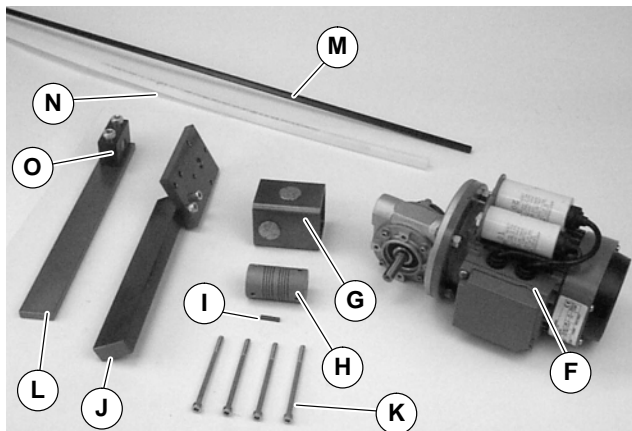
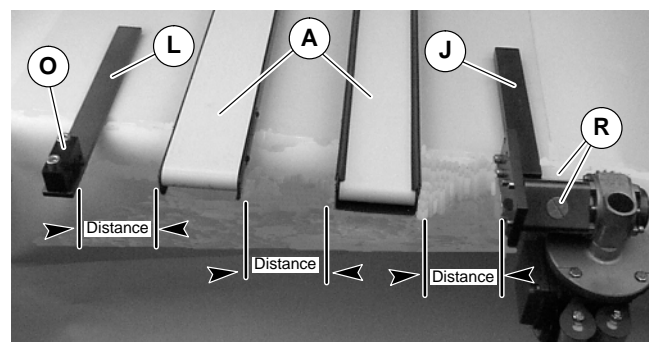

Figure 2
Figure 8
1. Gather components (Figure 2)
8. Measure distance between motor mounting plate (Q) and bearing block (O).
9. Cut hex shaft (M of Figure 2) to measured distance plus 2-1/8" (54 mm).
10. Align conveyors between gearmotor support assembly (J of Figure 8) and bearing support assembly (L).
**NOTE:** Do not secure the conveyors (A of Figure 8) to mounting surface.
11. Cut shaft cover (N of Figure 2) into pieces to match each distance (Figure 8) minus 1/16" (1.5 mm).
12. Remove inspection plugs (R of Figure 8).